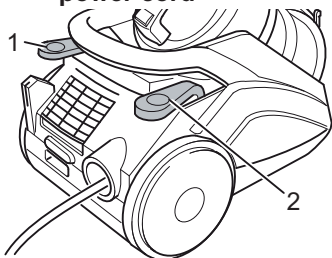

Fig. 18
1. Switch the appliance off via the on/off switch (Fig. 18/1) and unplug the plug from the mains socket.
3. Push the cable retraction button (Fig. 18/2) to retract the power cable. Guide the power cord with the plug in your hand during retraction.